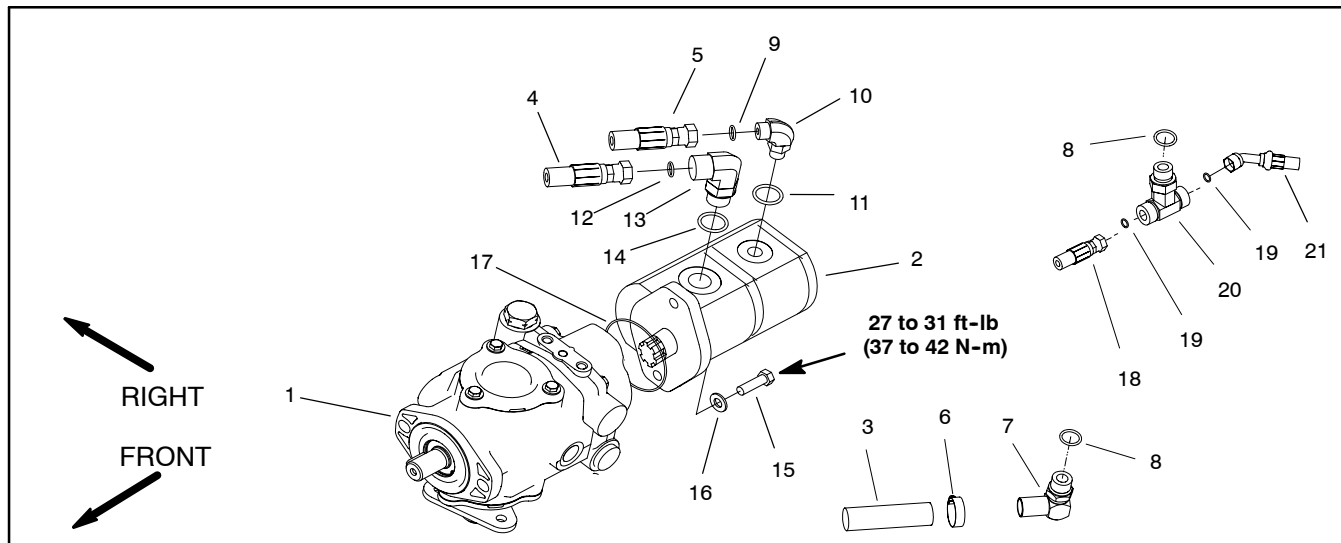

Figure 55
Removal (Fig. 55)
Installation (Fig. 55)
1. Install gear pump to the piston pump using Figure 55 as guide.
6. Remove gear pump from the piston pump using Figure 55 as guide.